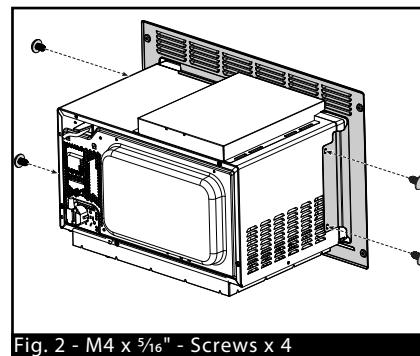

Fig. 2 - M4 x 5/16" - Screws x 4
3. Attach the trim kit to the microwave oven with 4 - M4 x 5/16" screws (Fig. 2).